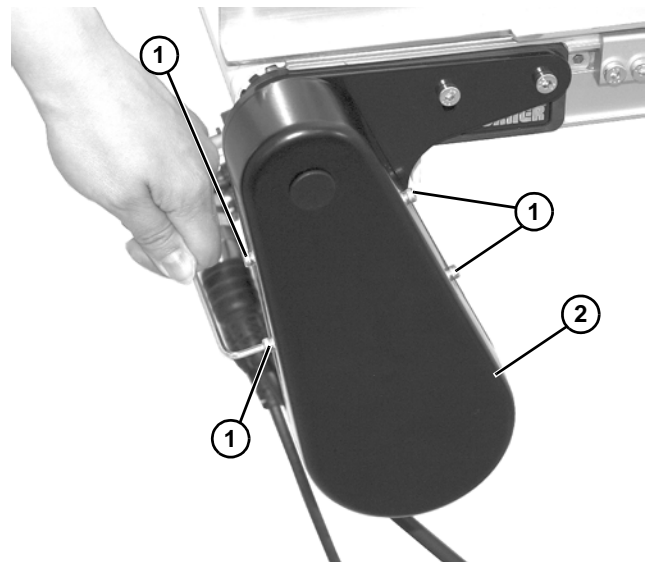

Figure 56
2. Remove four M4 screws (Figure 56, item 1) and cover (Figure 56, item 2).
- Install cover (**Figure 56, item 2**) with four (4) screws (**Figure 56, item 1**). Tighten screws to 14 in-lb (1.6 Nm).